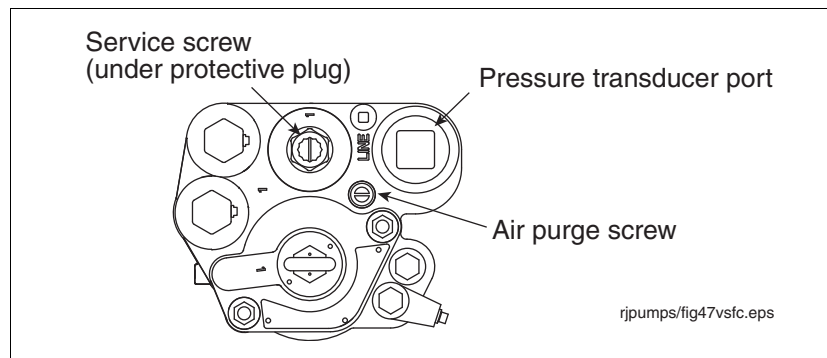

Figure 36. Locating Discharge Port Plug For Pressure Transducer
2. Remove and save the protective plug over the service screw and turn the screw clockwise (see Figure 36). As the screw approaches its bottom position, you will hear the system depressurizing. Continue turning the screw until it can go no further. When the screw is all the way down, back off the screw 4 turns to lift the check valve and let the fuel drain out of the manifold's hydraulic cavities.
9. Turn the air purge screw 2 - 3 turns counterclockwise (see Figure 36).